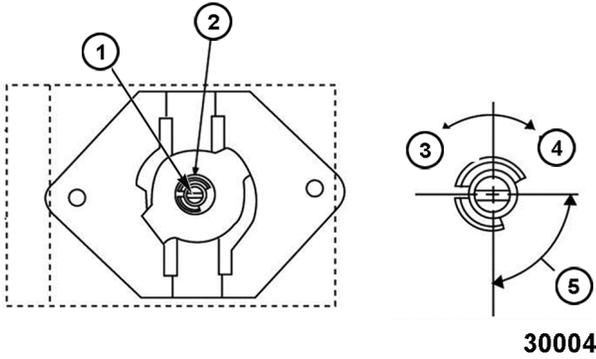

Fig. 87
- B. While holding outer shaft in place, turn inner screw using a small flat edge screwdriver 1/8 turn clockwise to decrease and counterclockwise to increase. 1/4 turn = 35°F. See Fig. 87 below.
Front of Thermostat Shown in Fig. 87
- While holding outer shaft in place, turn inner screw using a small flat edge screwdriver 1/8 turn clockwise to decrease and counterclockwise to increase. 1/4 turn = 35°F. See Fig. 87 under CONVECTION OVEN THERMOSTAT-COMBO VALVE CALIBRATION.